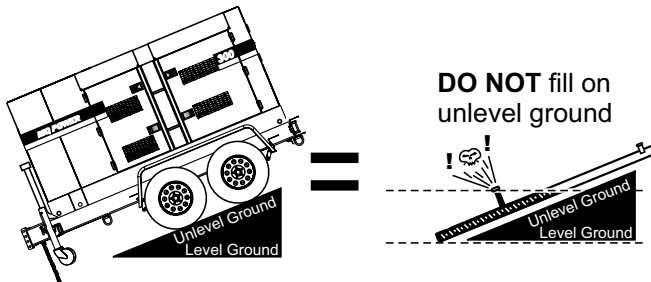

Figure 30. Only Fill on Level Ground
3. **Level Tanks** — Make sure fuel cells are level with the ground. Failure to do so will cause fuel to spill from the tank before reaching full capacity (Figure 30).